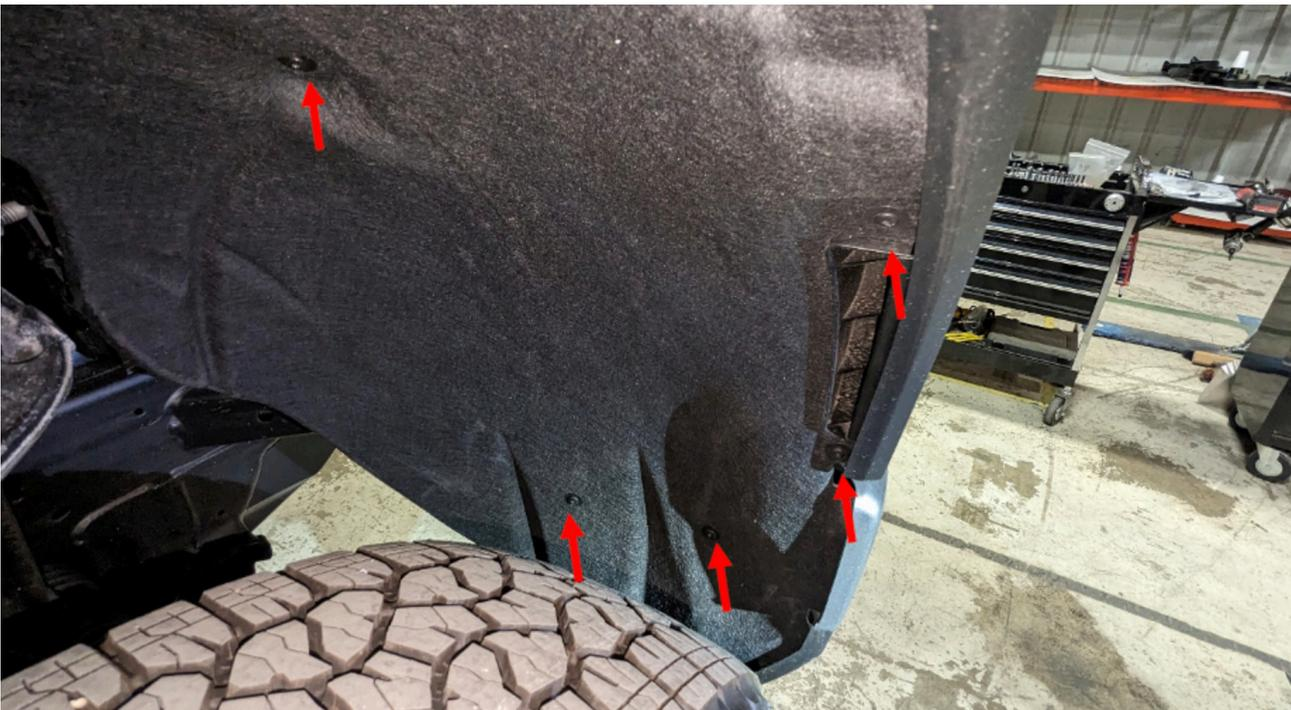

Figure 4
4. Using a T15 Torx, remove the six (6) lowest forward most screws in each front inner fender. Figure 4